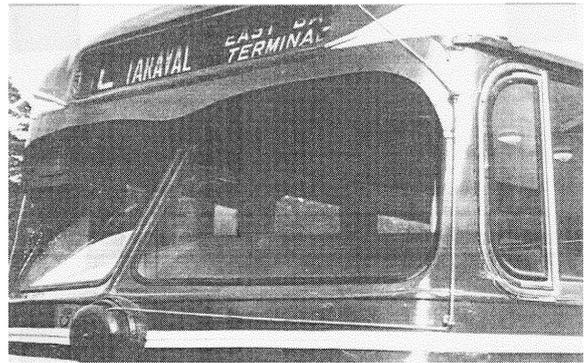

Fig 13: Position For Idle Pole Trolley Rope
8. Pull trolley pole down and stow the rope as shown in figure 13.